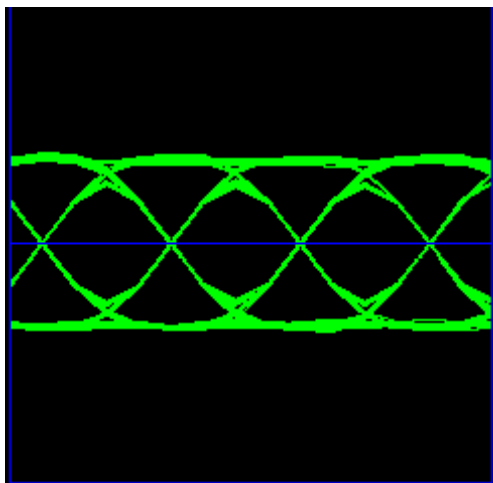

Figure 309: "Clean" Eye Pattern
- The eye pattern NEVER looks "clean," as in Figure 309